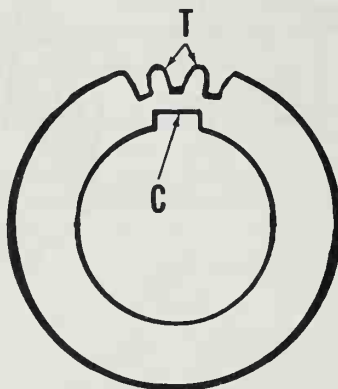

Fig. F2-14—When viewed from end of crankshaft, crankshaft gear keyway (C) should be centered between two gear teeth (T).
Flywheel end main bearing on Models 71A437 and 95A437, and main bearings on all other models are anti-friction type bearings. Inspect bearings and crankshaft on all models and renew if damaged or excessively worn. Inner bearing races should be heated to approximately 100° C(212° F) before installation on crankshaft. The crankshaft gear is removable and should be heated to approximately 180° C(360° F) before installation on crankshaft. Install crankshaft gear so when gear is viewed from crankshaft end, keyway (K—Fig. F2-14) is centered on two gear teeth (T).